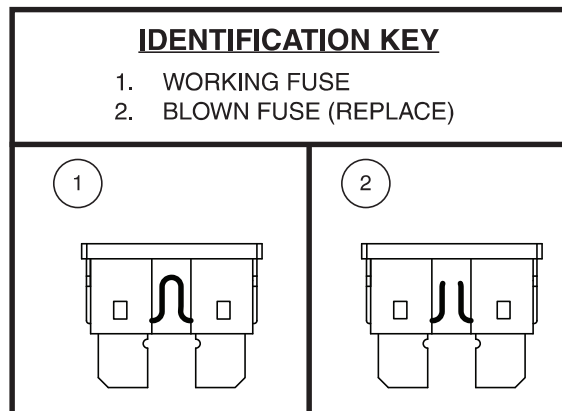

Figure 31. Fuse Replacement
2. Examine the fuse to be sure it is blown. See figure 31.